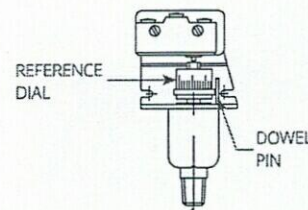

Figure 3
- ① Turn the reference dial to desired set point by aligning setting on dial with dowel pin. (See Figure 3).